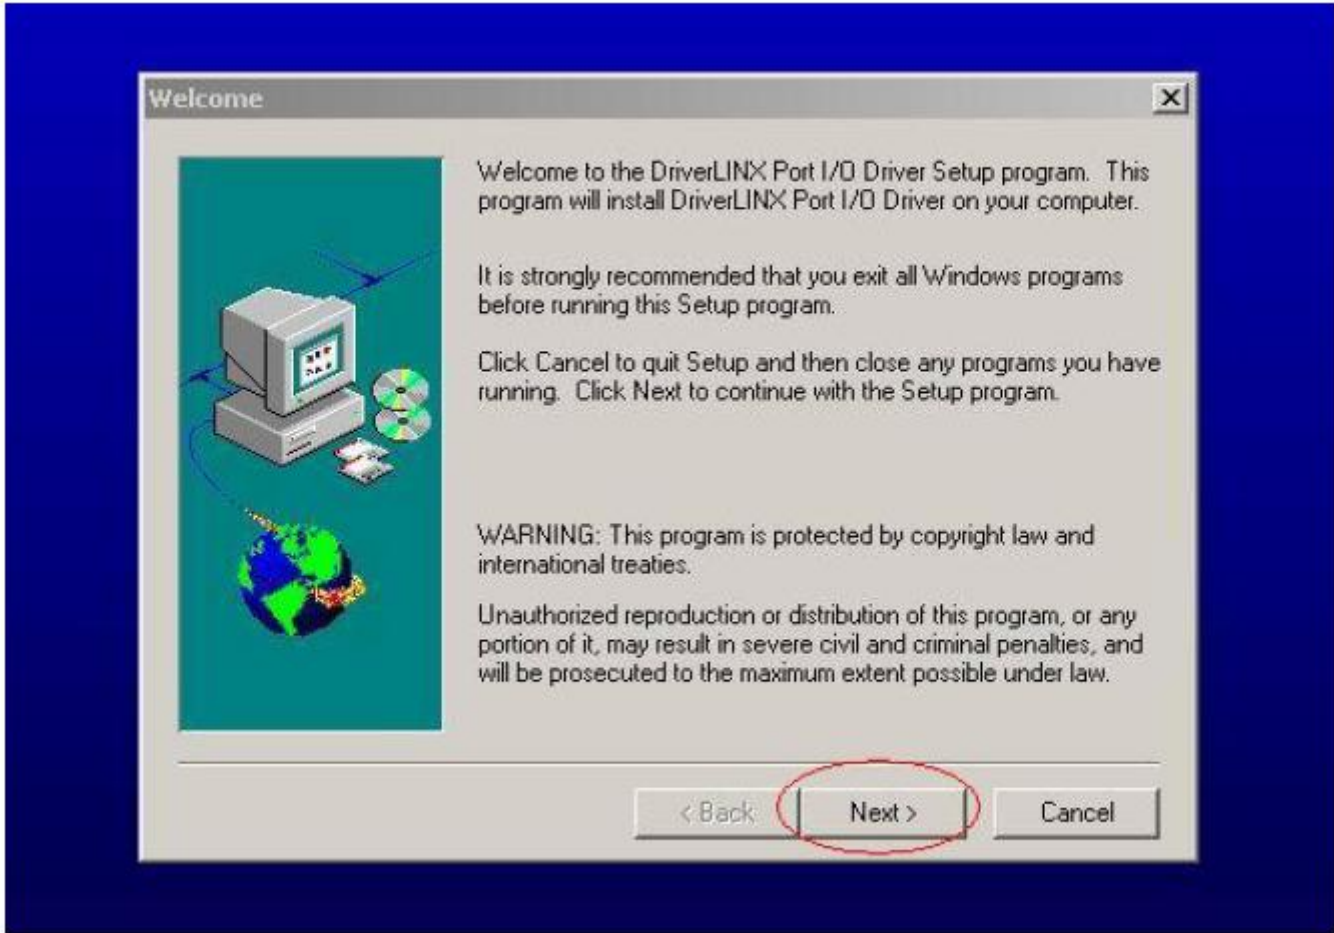

Fig. 0.2
0.2 Keep on press “ Next “ 4 times to go through the installation processes, see Fig. 0.2